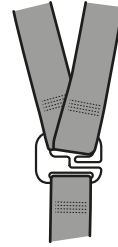
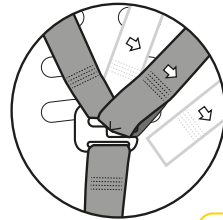

Figure 2
Figure 3
Step 4: Thread each shoulder harness strap back onto the "G" connecting plate through the gate (see Figure 3). The shoulder harness straps are connected to the "G" connecting plate (see Figure 2).
Fully extend the seat belt and pass the lap and sash sections of the vehicle belt under the first armrest, across the seat base ensuring you pass the seat belt beneath the tongue in the plastic moulding (refer Figure 4 & 5) then under the second armrest, “CLICK” the buckle tongue into the buckle (Refer to Figure 2, 3, 4 & 5).